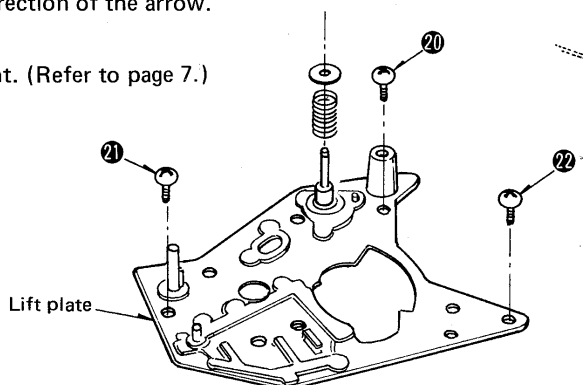

Fig. 10
### ● How to remove the lift plate (Fig. 10)
2. Remove the 3 setscrews [ Fig. 10: 20 ~ 22 ] of the lift plate.